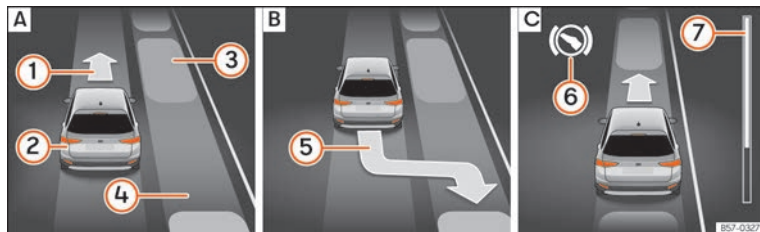
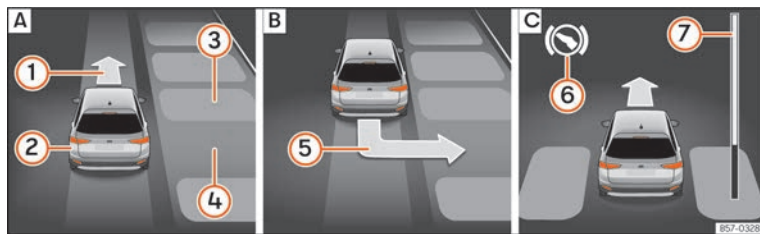

Fig. 186 On the instrument panel display: parallel parking. **A** Finding a parking space. **B** Parking position. **C** Manoeuvring.
Fig. 187 On the instrument panel display: angle parking. **A** Finding a parking space. **B** Parking position. **C** Manoeuvring.
- Look at the display on the instrument panel to see if the space has been detected as “appropriate” and if the correct position for parking has been reached » **Fig. 186 [B]** or » **Fig. 187 [B]**. The space is considered “appropriate” if the display on the instrument panel shows the message to park **(5)**.
- Reverse until the continuous ParkPilot signal sounds; **OR:** reverse until the indication to move forward appears on the instrument panel display » **Fig. 186 [C]** or » **Fig. 187 [C]**; **OR:** reverse until the **Park Assist finished** message appears on the instrument panel display. The progress bar **(7)** indicates the distance to cover » **page 265**.
- Move forward until the continuous ParkPilot signal sounds; **OR:** move forward until the reverse indication appears on the instrument panel display. The Park Assist system steers the vehicle forward and back until it centres it in the space » **Fig. 186 [C]** or » **Fig. 187 [C]**.
The progress bar » **Fig. 186 (7)** and » **Fig. 187 (7)** on the screen of the instrument panel displays the relative distance to be covered. The greater the distance, the fuller the progress bar. When driving forward, the content of the progress bar decreases upwards, and when reversing, it decreases downwards.